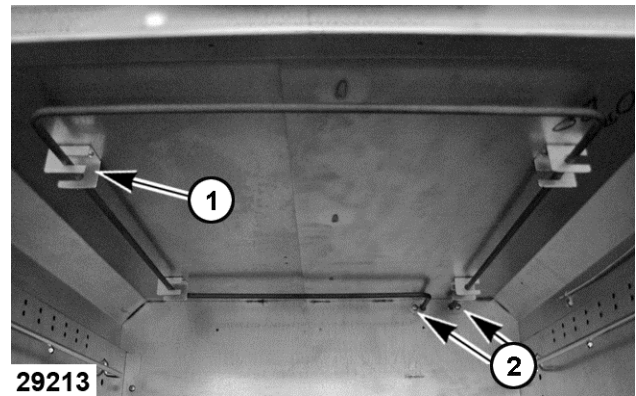

Fig. 16
2. Loosen element mounting brackets (1, Fig. 16).
3. Remove element mounting screws (2, Fig. 16).